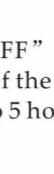

Fig 5E
- After starting the car, to press the key of Up& Down of Scaling Ladder, the scaling ladder of the fire truck would raise up (come down) slowly; at the same time, the second console would hand over(draw back) slowly with a series of mechanical sound, flashing lights at the top of cab, lighting up of the front and back lights(Fig 5E).